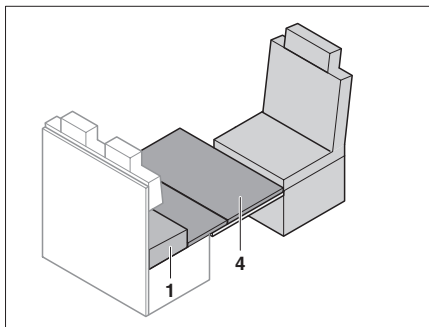

Fig. 119 Laying on the guest bed foundation
- Lay the guest bed foundation (Fig. 119,4) on the table. Lay the front edge of the guest bed foundation directly against the driver's seat.